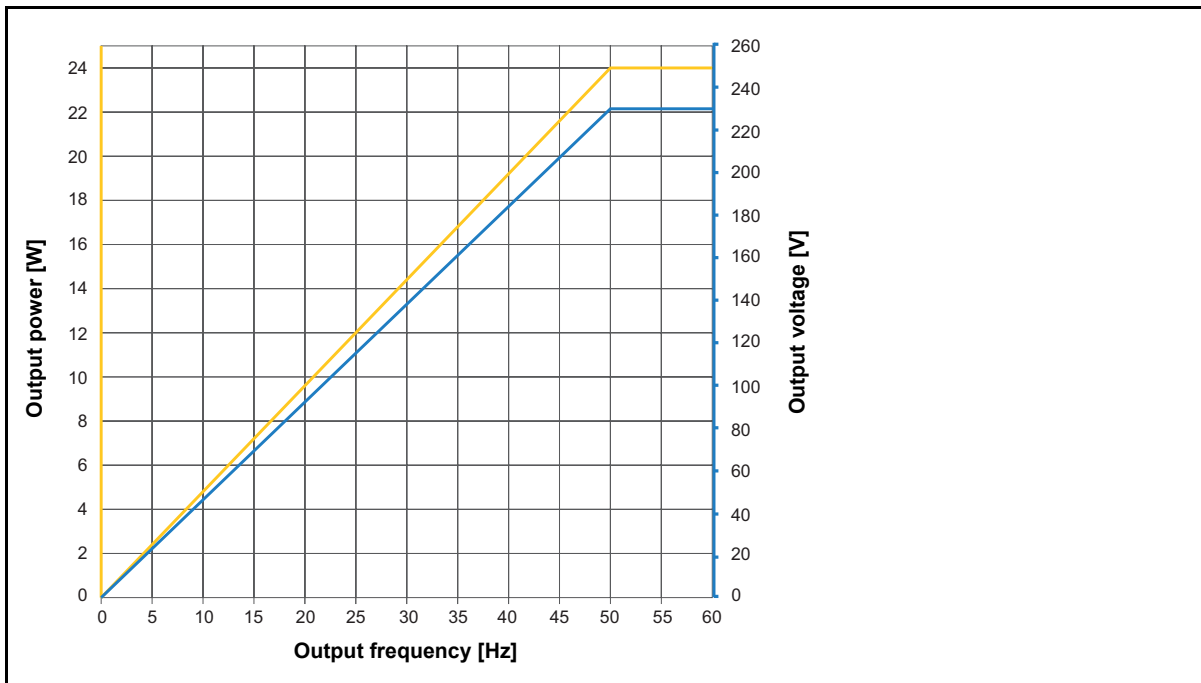

Figure 15-5: Derating of output power and output voltage 3 x 230 VRMS
3. See Figure 15-5: "Derating of output power and output voltage 3 x 230 VRMS" on page 223